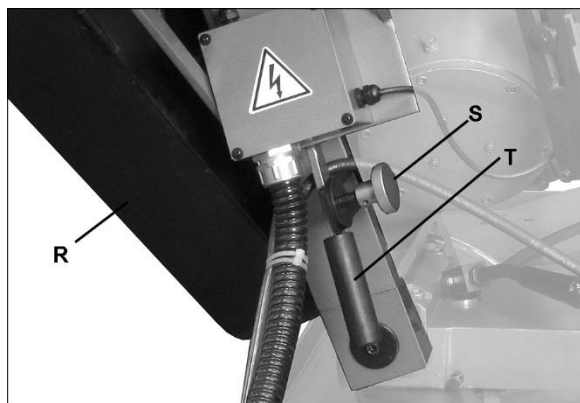

Figure 7-5: belt tensioning
Refer to Figure 7-5.
2. Open pulley cover (R, Figure 7-5).
3. Loosen knob (S) and lift handle upward (T) to tension belt.
4. Retighten knob (S).